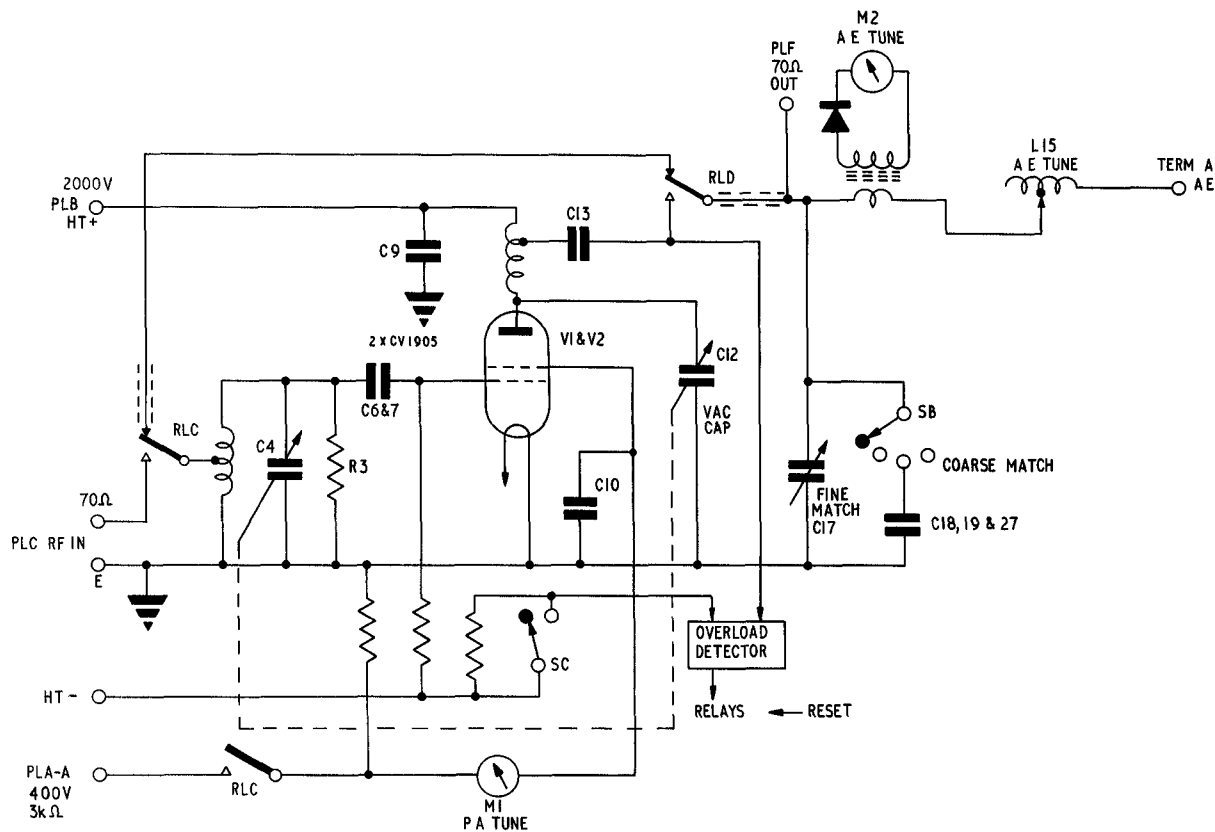

Fig 5 - Simplified r.f. circuit
26. A simplified basic circuit of the amplifier is given in Fig 5, this provides a quick overall appreciation of the r.f. circuitry.
27. As can be seen by reference to Fig 5, both grid and anode circuits of the amplifier are tuned by the ganged capacitors C4 and C12.